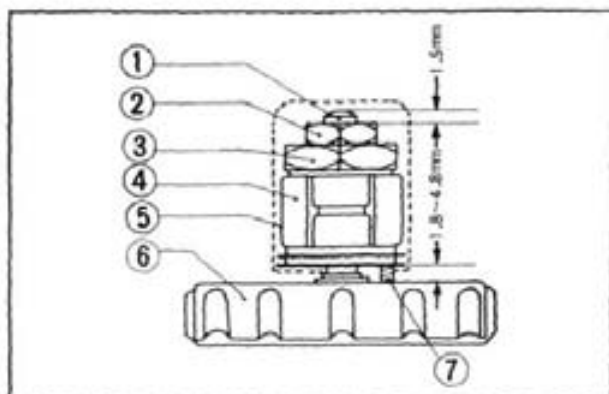

Fig. 20-15 Link component
4. Start the engine, loosen the adjuster screw lock nut and turn the adjuster screws so that the vacuum gauges connected to the carburetors are all indicating uniformly (within 3.0 cmHg) between 16 to 24 cmHg. (Fig. 20-15)
- ① Turn the throttle stop screw until there is a slight clearance between the stopper and the screw.
- ② Adjust the adjuster screw so that there is a **0.070-0.189 in. (1.8-4.8 mm)** clearance between the adjuster screw and the top. (Fig. 20-15)
- ③ Turn the throttle stop screw in the counter clockwise direction back to the original position.